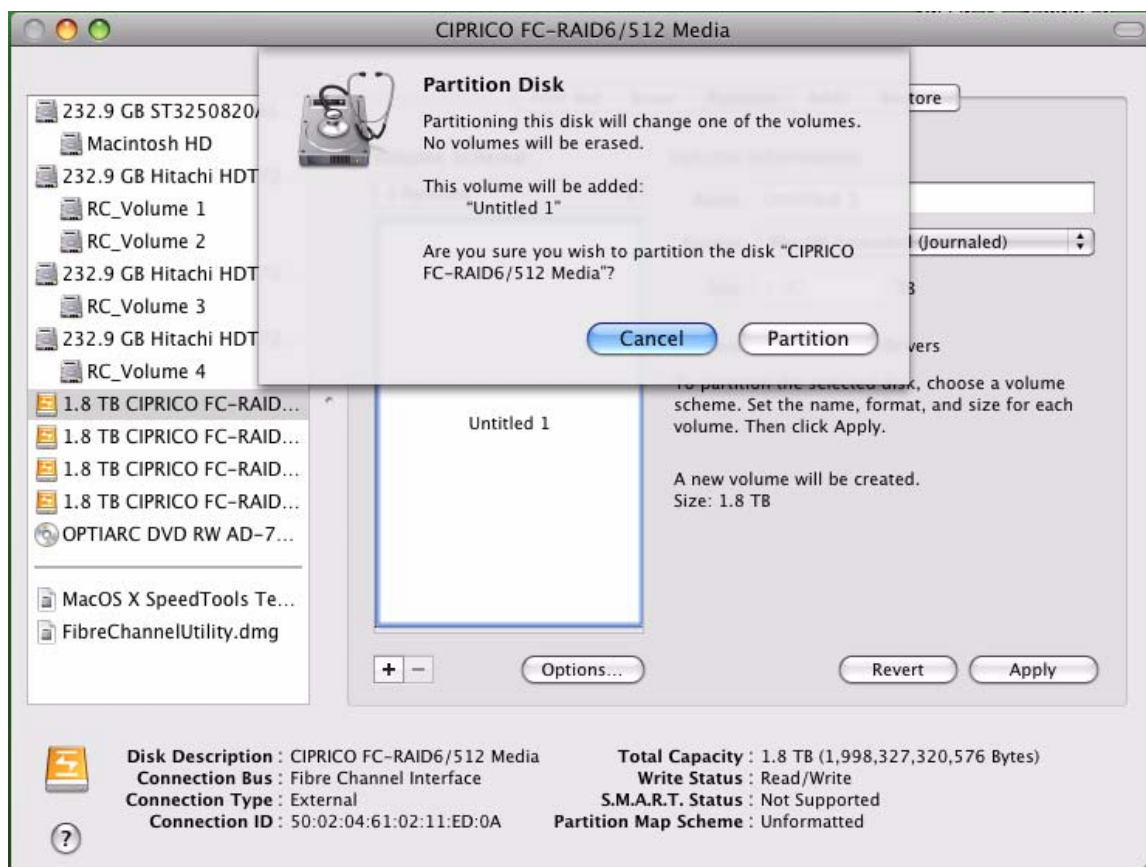

FIGURE 6-6. Partition Disk Screen, Displayed Before the First Drive is Partitioned.
6. A *Partition Disk* screen appears. It warns about destroying data when partitioning a disk. To continue with the partition process, click the **PARTITION** button on this screen. See Figure 6-6.